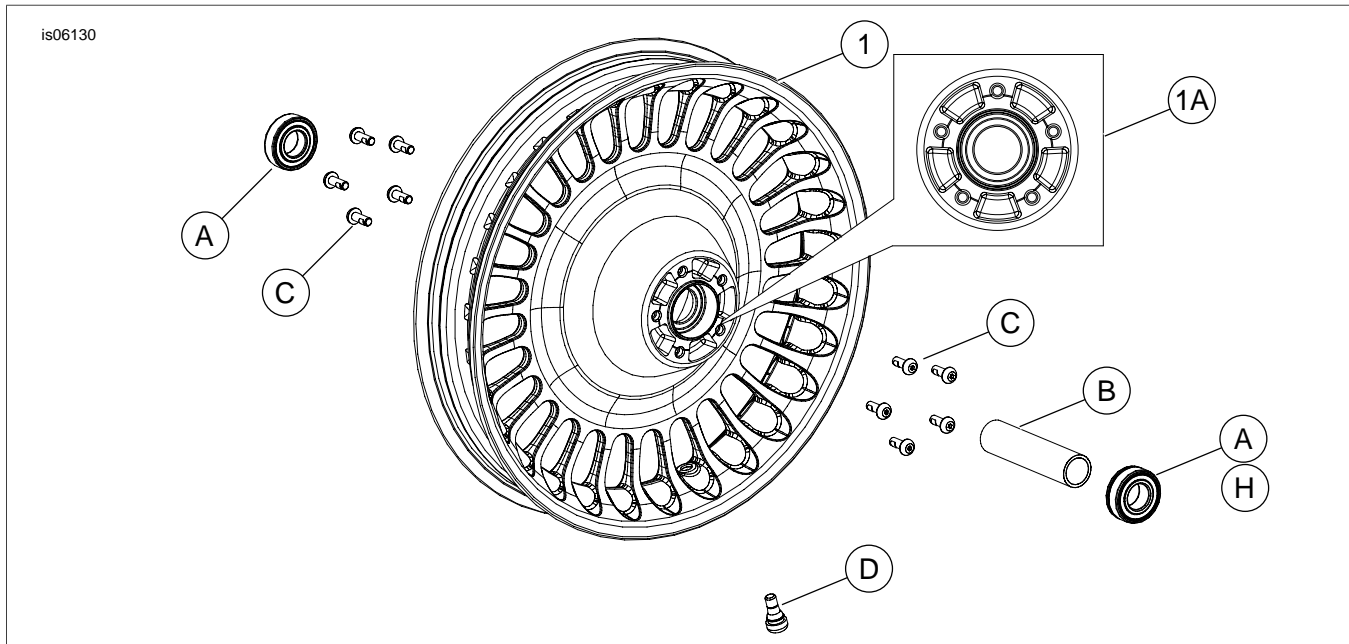

Figure 1. Service Parts: Front 28-Spoke Wheel (17 inch shown)
See Figure 1 and the Service Parts Tables.
2. See Figure 1. Install valve stem assembly (D) on wheel. Refer to the service manual.
6. Install front wheel (1) and stock axle. See the service manual.